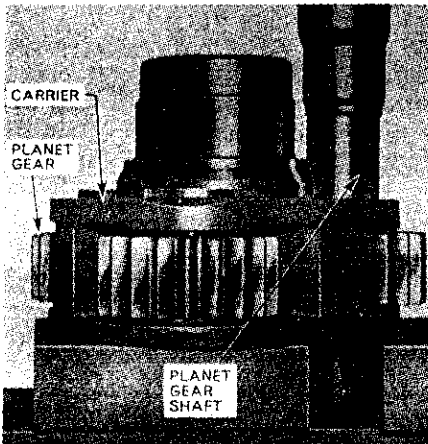

Fig. 338—Installing planetary gear unit in planetary carrier.
ings. To reassemble, proceed as follows: Coat bore of pinion gear with heavy grease, stick row of bearings in one side of pinion, insert center thrust washer (47) and stick second row of bearing rollers in pinion. Place a thrust washer (44) on each side of pinion, place the pinion, bearings and thrust washers in carrier and insert pinion shaft (11) with flat on end towards center of carrier. Press the pinion shaft into carrier as shown in Fig. 338. Repeat the procedure for remaining two pinions to complete assembly of the carrier, then press retainer (10) and bearing cone (9) onto carrier housing.